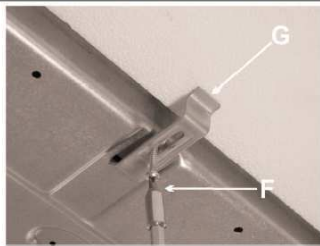

FIG. 12
- Put the hob in the installation opening and fix it using the appropriate screws "F" to the fastening hooks "G" (see FIG. 12).